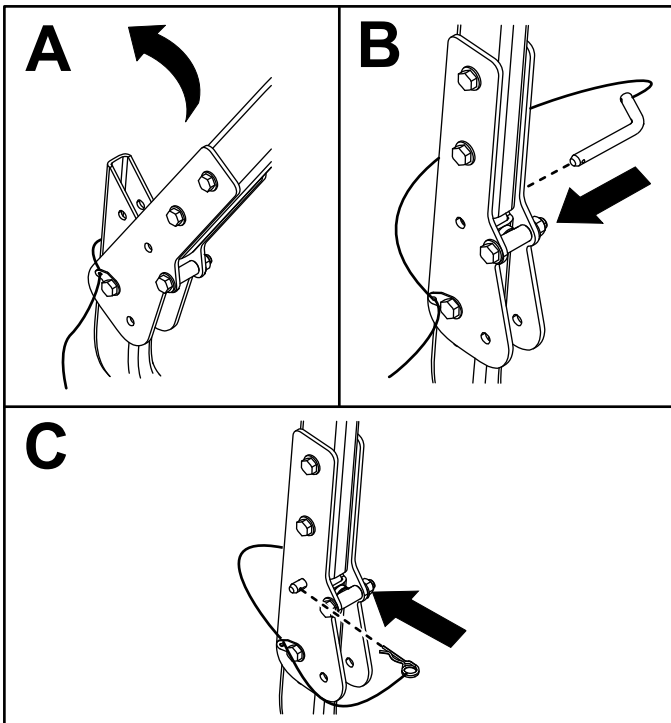

Figure 10
5. Raise the roll bar into the upright position and lock it into place using the pivot pin and hairpin cotter on both sides of the roll bar (Figure 10).